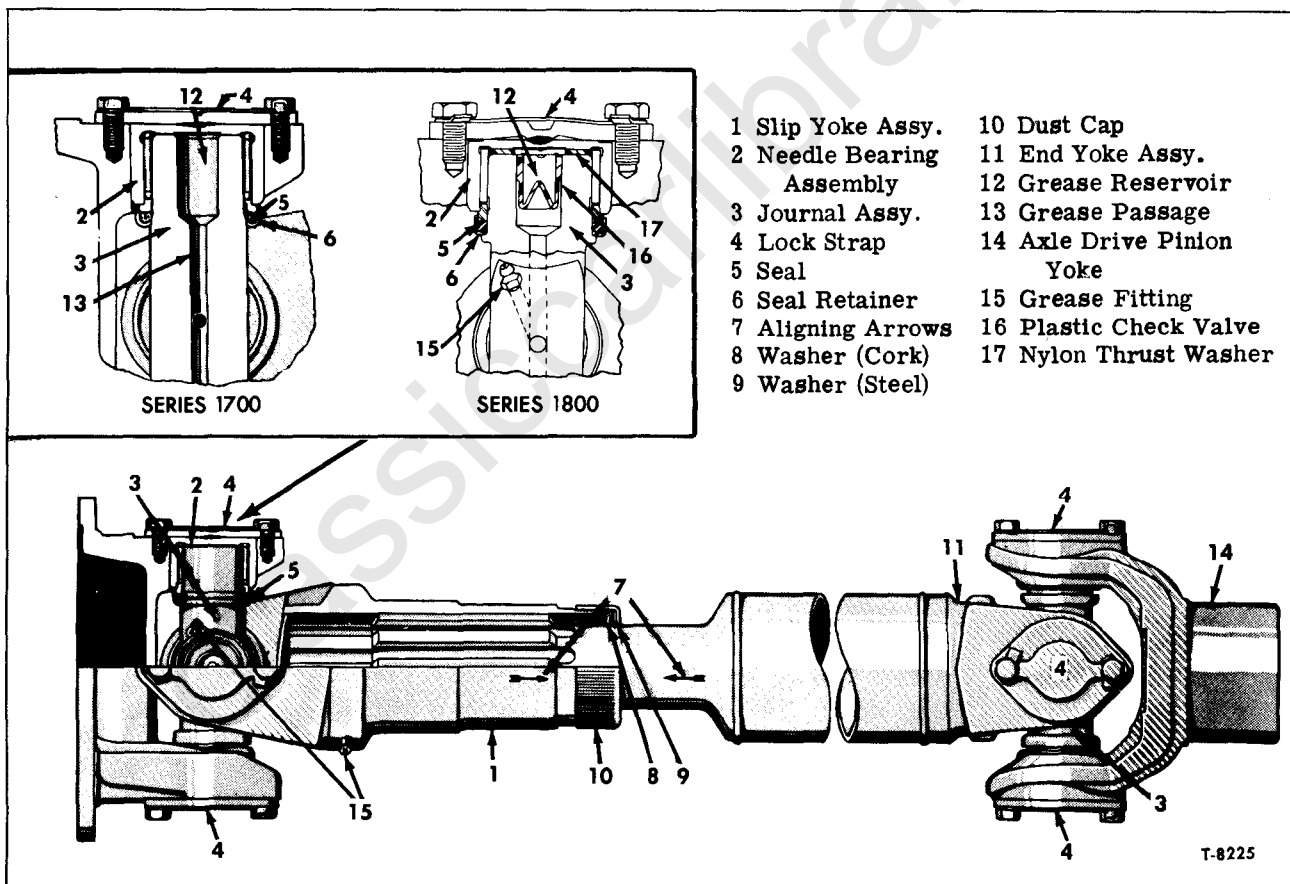

Figure 1—Typical Propeller Shaft with Type 1700 or 1800 Series Universal Joint
countered during high rpm over-the-road service (see fig. 1).
2. One-way plastic check valves are now inserted in each end of the trunnion (see fig. 1). This feature helps retain lubricant at the outer bearing area to prevent a drainback of warm, more liquid lubricant, to the center of the trunnion. The drainback condition could occur when the vehicle is brought to a stop and remains for a period of time after extended, high speed, high rpm usage.